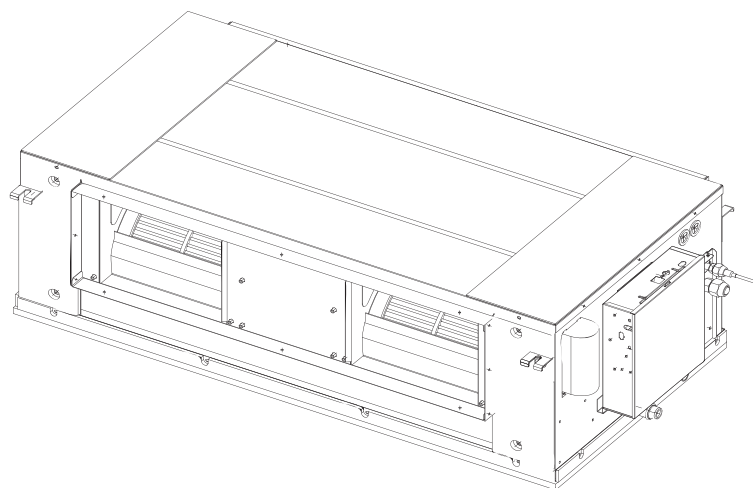

Fig.4-15
1. The whole unit status show as Fig.4-15.